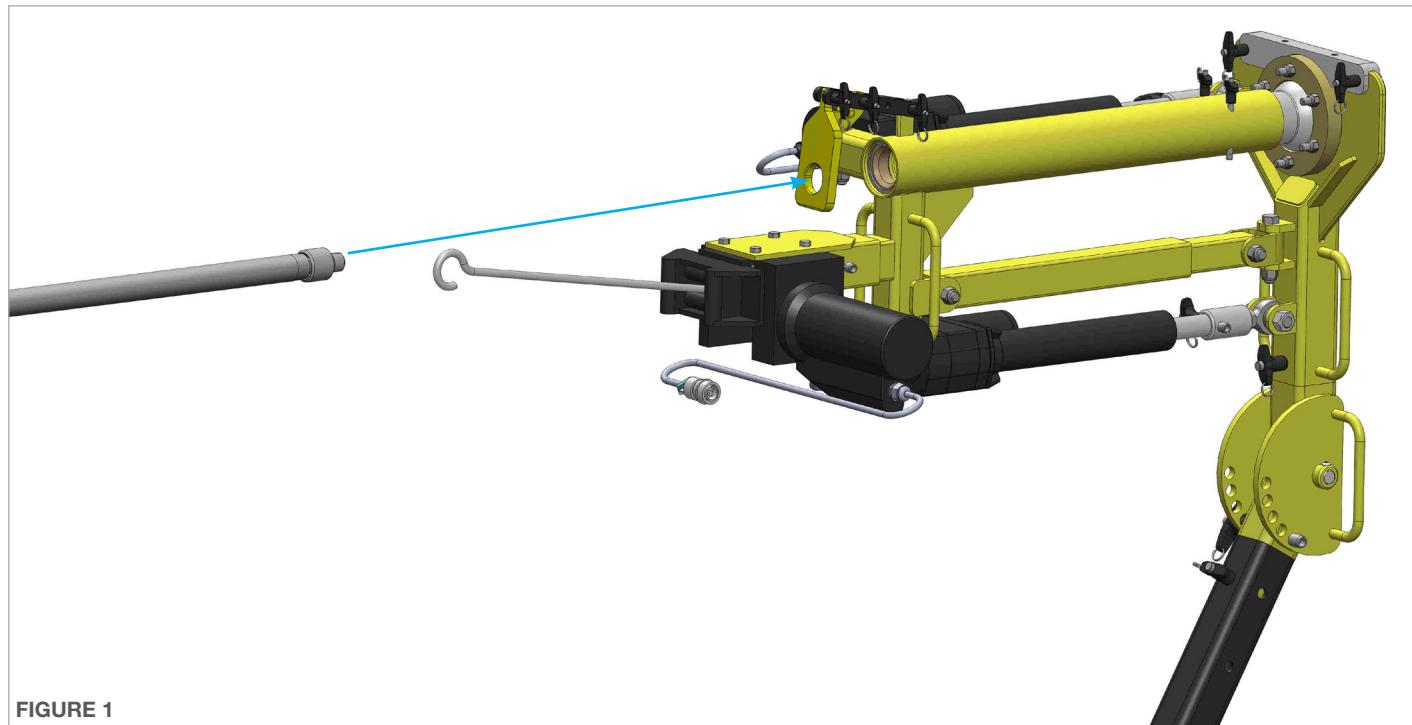

FIGURE 1
1. Plug the Wire Cables, Remote, and Power supply into the Control Box as shown in **(Figure 1)**.
1. Insert the Lance / Swivel Assembly through the Backout Assembly (JKT 270-001) then through the Pivot Assembly (JKT-200). **(Figure 1)**